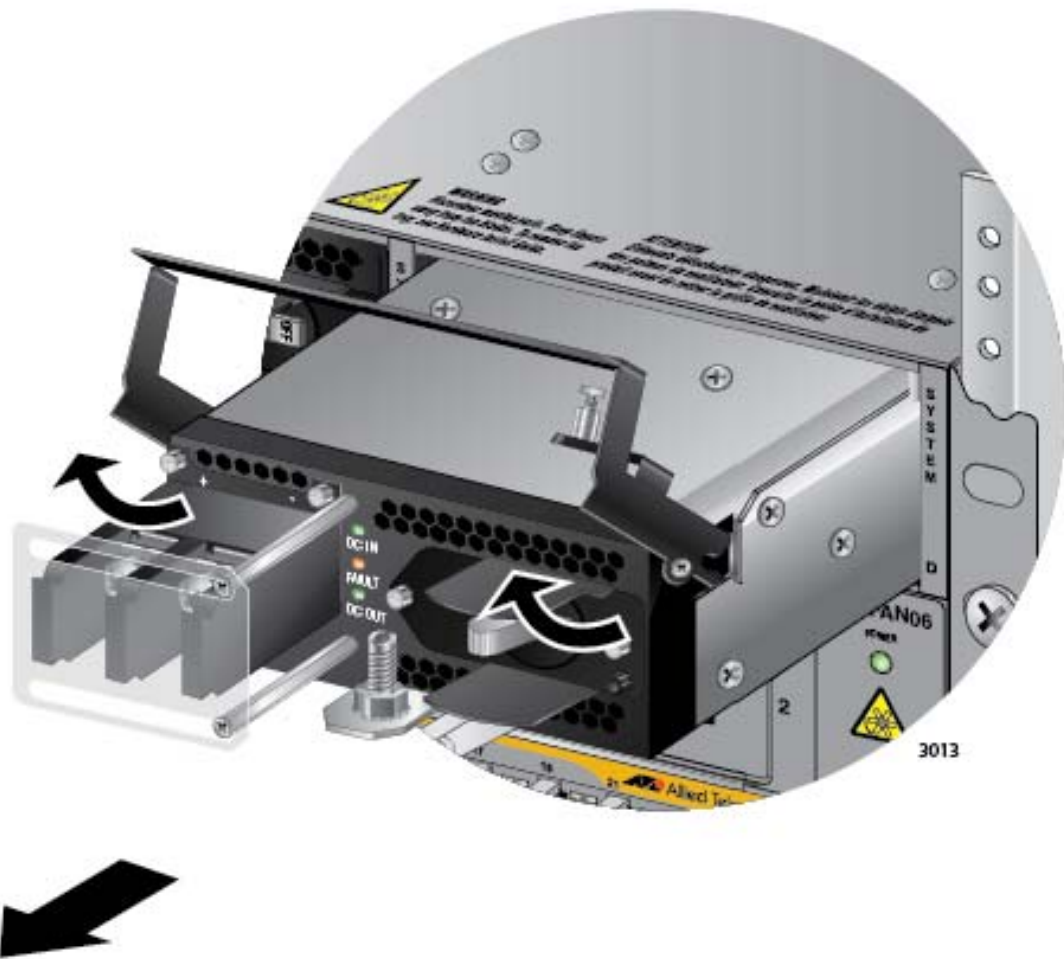

Figure 160. Lifting the Locking Handle and Removing the Power Supply
11. Lift the locking handle and slide the power supply from the chassis. Refer to Figure 160 on page 252.